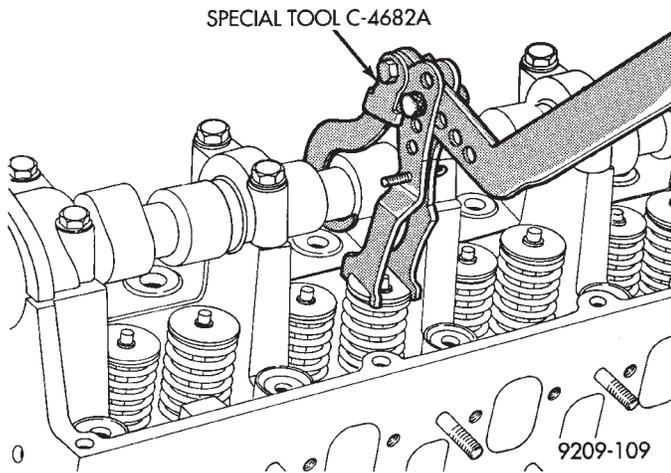

Fig. 12 Removing and Installing Valve Spring
(1) Remove valve cover.
(2) For each rocker arm, rotate cam until base circle is in contact with rocker arm. Depress valve spring using Special Tool C-4682 (Fig. 12) and slide rocker arm out. Keep rocker arms in order for reassembly.
(3) Remove hydraulic lash adjuster.
(1) Install hydraulic lash adjuster making sure that adjusters are at least partially full of oil. This is indicated by little or no plunger travel when the lash adjuster is depressed.
(2) Rotate cam until base circle is in contact position with rocker arm. Depress valve spring with Special Tool C-4682 (Fig. 12) and slide rocker arm in place. Keep rockers in order. It is possible for the
(1) Remove rocker arms as previously outlined in this section.
(2) Rotate crankshaft until piston is at TDC on compression.
(3) With air hose attached to adapter tool installed in spark plug hole, apply 90-120 psi air pressure.
(4) Using Special Tool C-4682 (Fig. 12) compress valve springs and remove valve locks.
(5) Remove valve spring.
(6) Remove valve stem seal by gently prying side-to-side with a screwdriver blade. Once dislodged from guide post, seal may be easily removed.